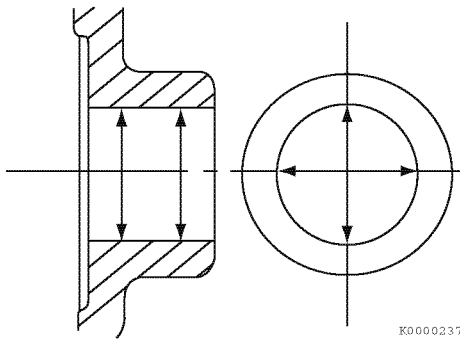

Figure 6-65
6. Measure the diameter of the wrist pin bore on both sides of the piston (Figure 6-65). See *Piston on page 6-9 for specifications*. Record the measurements.